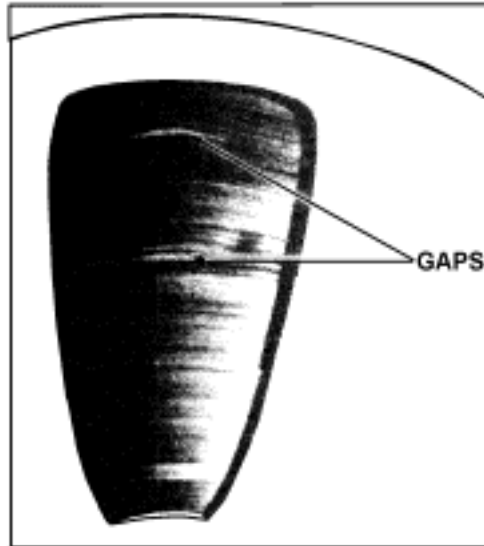

Figure 2-5.—Example of windowed tape pack.
Windows are voids or see-through air gaps in the tape winding. They happen when magnetic tape is loosely wound onto a tape reel, and especially when the loosely wound reel is later exposed to extreme heat or humidity. Figure 2-5 shows a windowed tape pack.
- Q-26. *A tape pack has gaps in the tape winding as shown in figure 2-5. What causes this condition?*